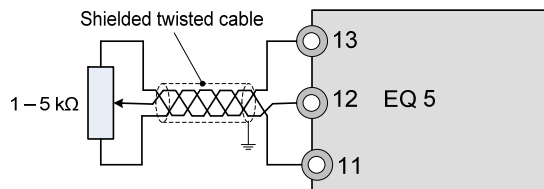

Fig. 2-3-8 Shielding
(1) Analog input terminals (13,12,V2,C1,and 11)
- These terminals receive analog signals that may be affected by external noise. The cables should be as short as possible (66ft /20m or less), be shielded twisted cable, and must be properly grounded. If the cables are affected by externally induced noise, the shielding effect may be improved by connecting the shield to terminal [11]. (see Fig. 2-3-8)